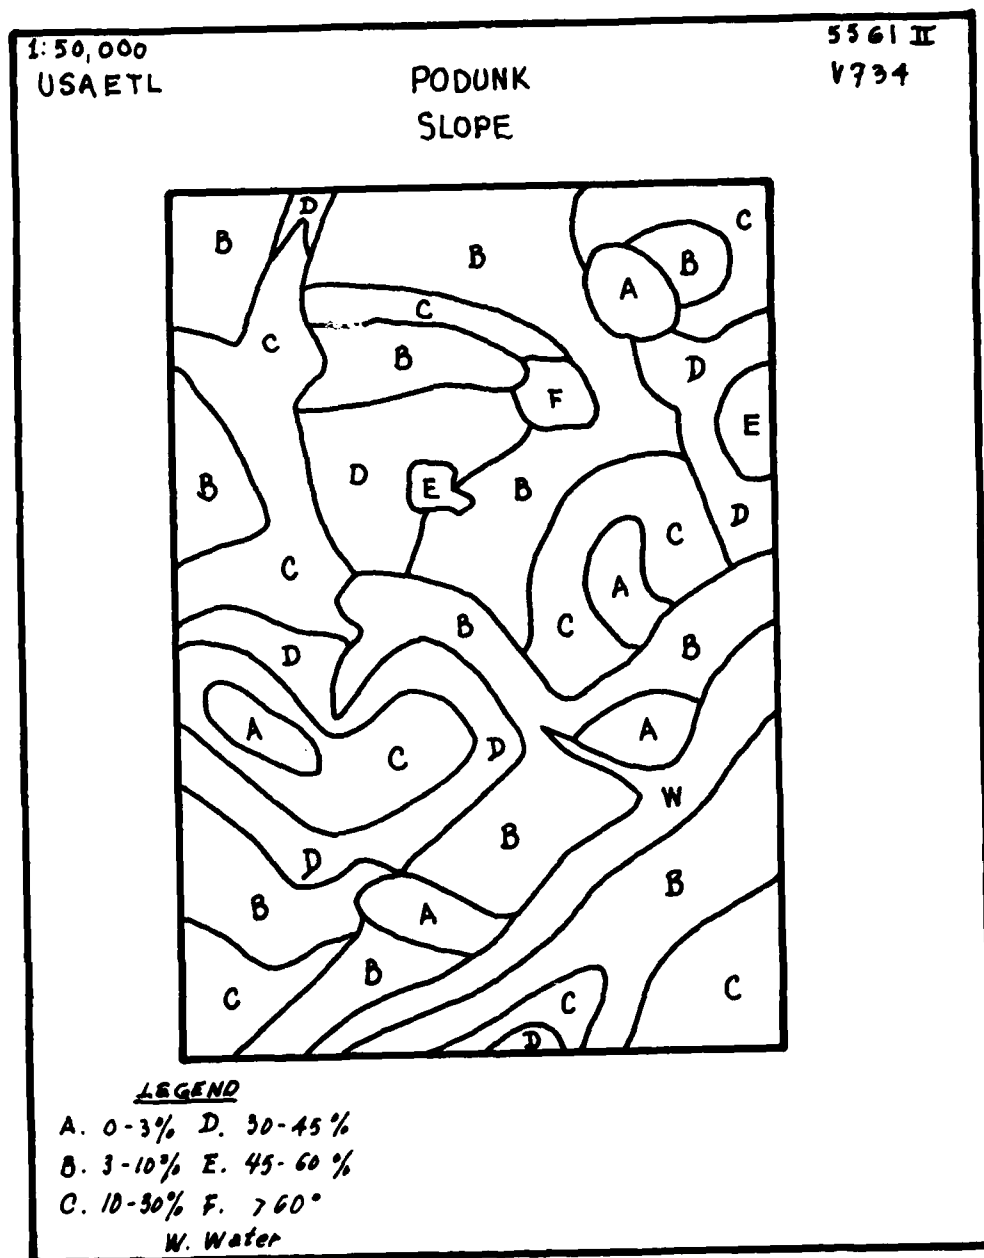

Figure 2. Sample Slope Factor Overlay
b. Pull the Slope Factor Overlay out of the data base (figure 2). Using the legend for this overlay, make a Slope Factor Table like that in table 1.